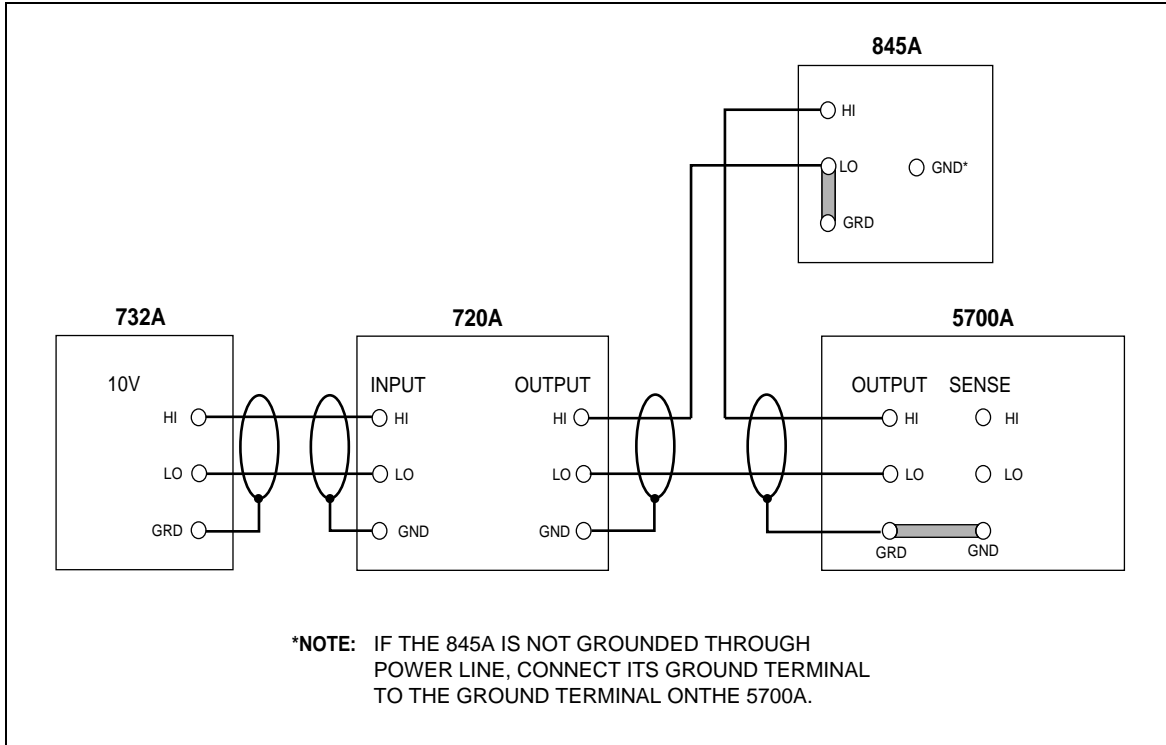

Figure 3A-16. DC Voltage Linearity Test
1. Self calibrate the Kelvin-Varley (KV) divider as called for in its service manual.
2. Connect the equipment as shown in Figure 3A-16.